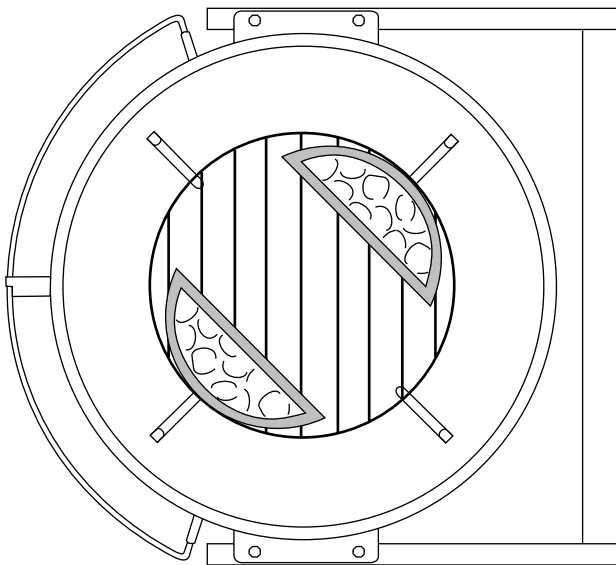

Figure 4
When cooking by the Indirect method, Char-Baskets should be positioned as shown in figure 4 with the "flaps" of the hinged cooking grate directly above the baskets. This is for safety reasons so the user can avoid reaching directly over burning coals.
3. Move Char-Baskets to opposite sides of the kettle immediately after ignition. Figure 4. Wear barbecue mitts and use long-handled tongs.